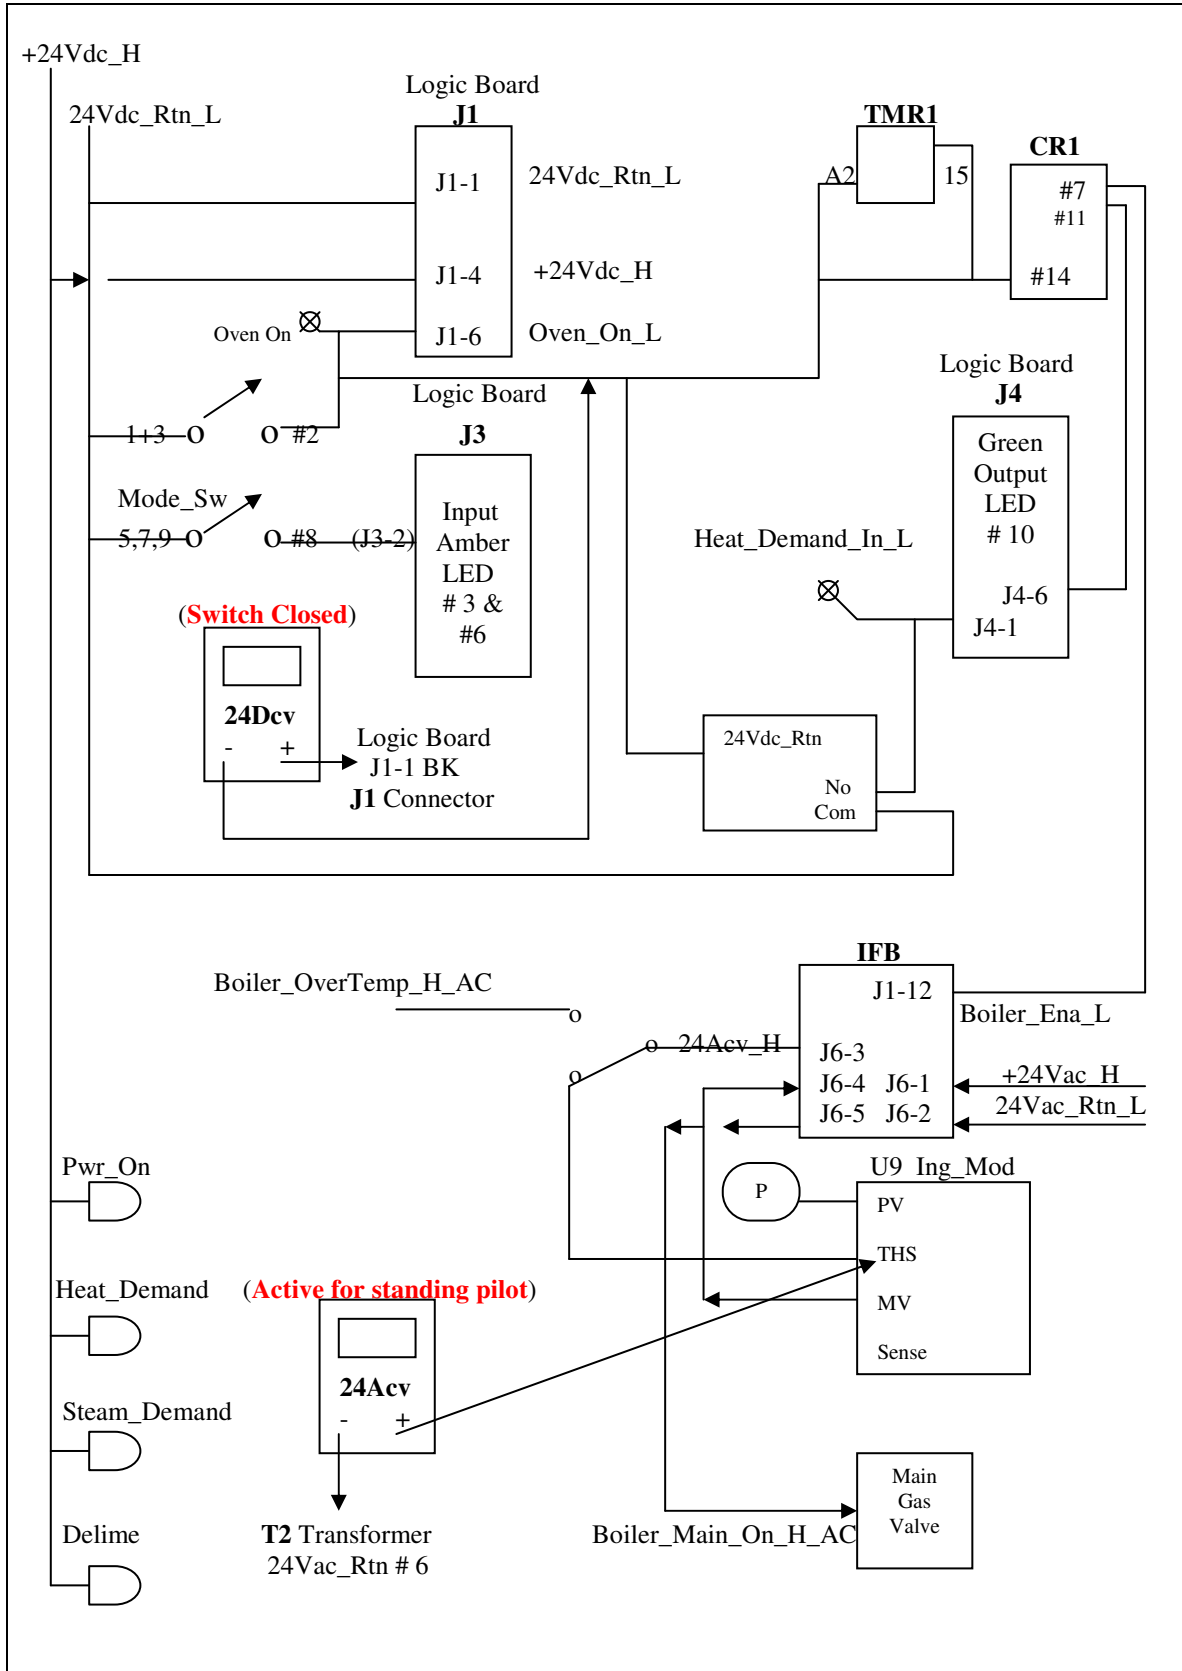

FIGURE 5
10. If pilot was on but no main burner check the **J6** connector between (J6-2) to (J6-4) for 24Acv. If not then check the (IFB J6) connector for possible damage correct as needed). See the steam mode flow chart (FIGURE 5).